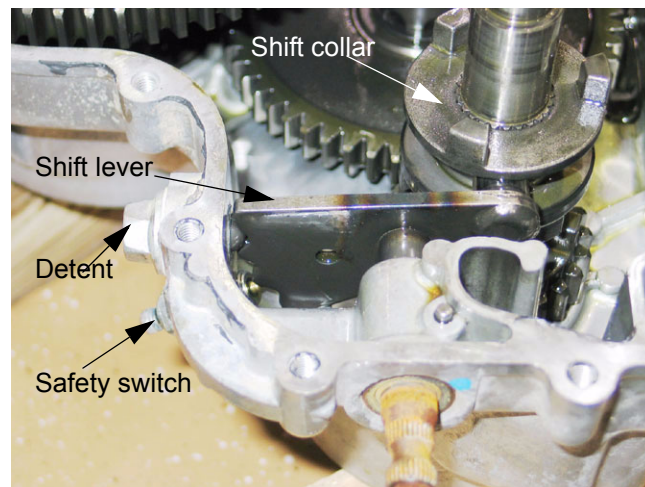

Figure 9.37
- 9.37. The shift collar is trapped onto the input shaft by the shift lever. To remove the shift lever, it is easiest to remove the detent assembly and safety switch. See Figure 9.37.